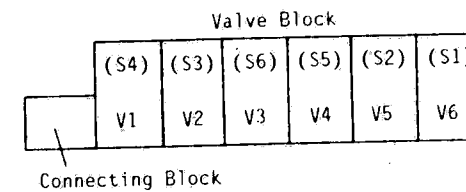

Figure 3-1. ACTUATION/RESPONSE TEST OF VALVE BLOCK.
- (1) Are they as follows (see Fig.3-1):